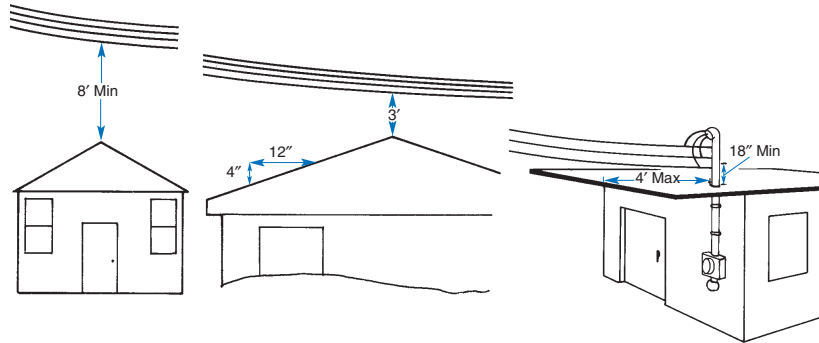

Figure 10-24. Above-roof clearance for overhead conductors. (OSHA)
- Above roofs, **Figure 10-24**